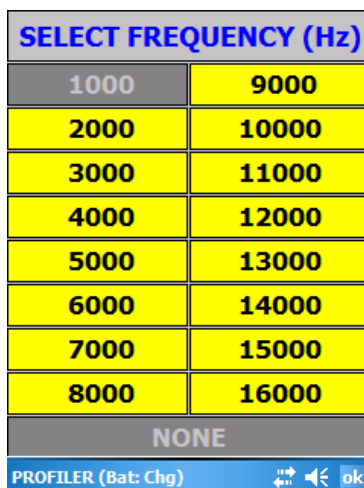

Figure 42: Select Transmit Frequencies menu.
1. Select **FREQ 1** from the Select Parameters menu. Figure 42 illustrates the transmit frequency selection list Select Frequency menu below.
1. Prior to performing the Field Calibration, make certain that you have selected the desired Transmit Frequencies (Figure 42).